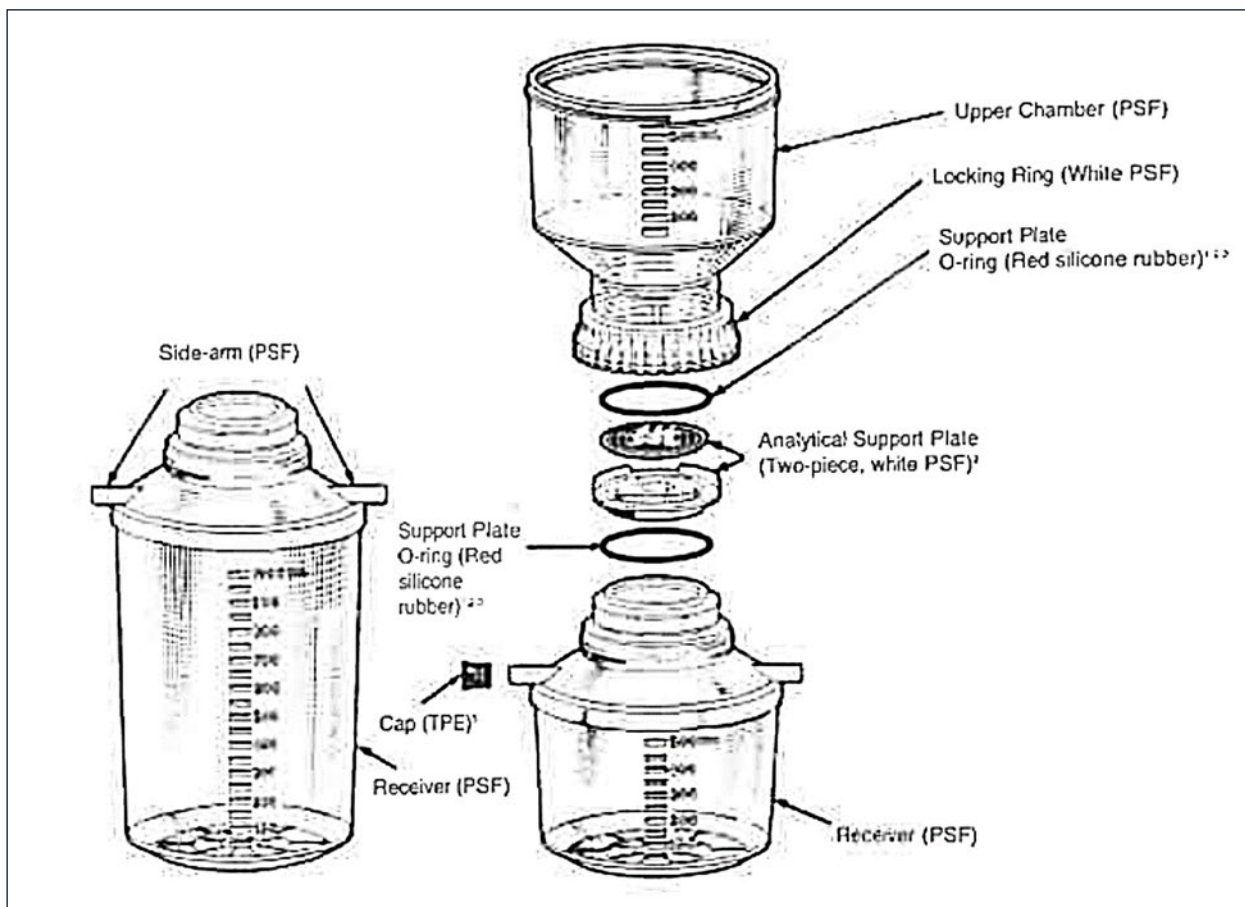

Figure 5. The biotoxin filtration system components.
- Rinse the **support plate, upper chamber, and receiver** (Figure 5) of the filtration assembly with clean, fresh water (preferably distilled and/or deionized).